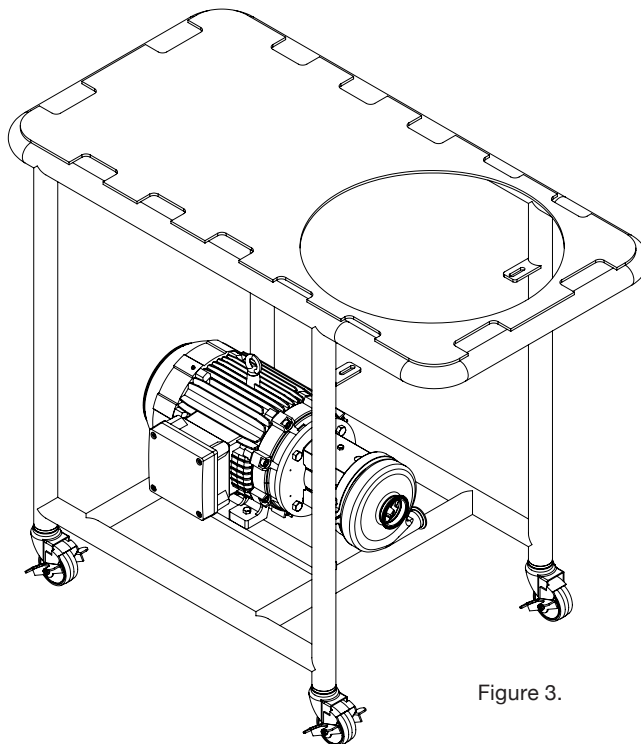

Figure 3.
6c. Place the QIM onto the QDB table and fix the motor using the hexagonal screws (T1) and nuts (T2) to the brackets on the table. Do not tight the screws until the hopper (H) is installed. **Figure 3.**